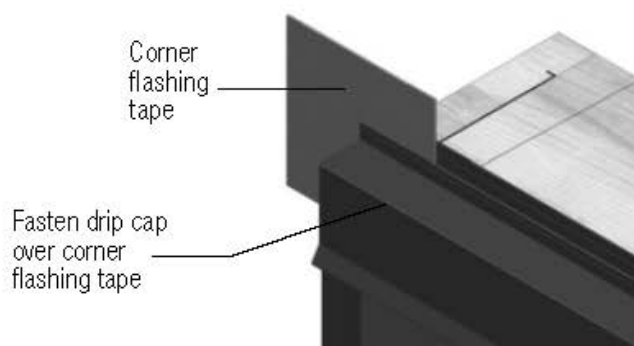

FIG. 16
- B) Apply a 1/4" continuous bead of 100% silicone sealant to the backside of the drip cap nailing leg. Install the drip cap flashing across the top of the door. Secure it to the framing using galvanized roofing nails near the top of the vertical leg. (Fig.16)